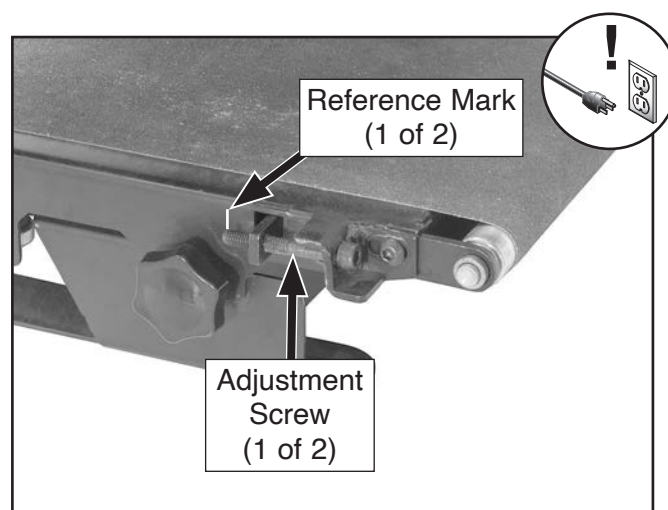

Figure 36. Location of adjustment screw reference mark (left side shown).
3. Use pencil or tape to make reference mark on each side of conveyor table where end of adjustment screws are positioned (see **Figure 36**). These reference marks will provide a visual aid in keeping track of adjustments.